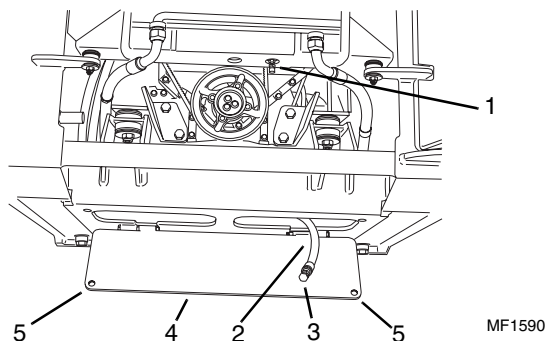

Figure 10-106 Radiator/Engine Oil Drain
42. Ensure the radiator drain valve (Fig. 10-106, 1) is securely closed.
47. Ensure that the drain hose plug (Fig. 10-106, 3) is securely tightened.
48. Swing the access cover (Fig. 10-106, 4) up into place and secure in each corner (5) with the original capscrews.